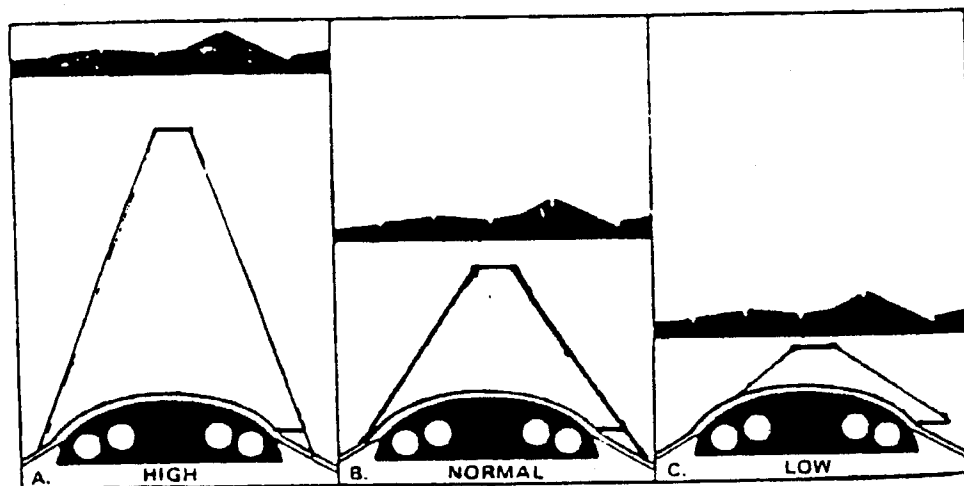

FIGURE 9-3
d. Control the glide path with spoilers. It will take some experience for you to recognize whether you're above, on, or below the optimum glide path. For now, Figure 9-3 shows the differences of a high, normal, or low approach. **If you're high** (aimpoint moving down windshield), **increase spoilers**. **If you're low** (aimpoint moving up windshield), **reduce spoilers**. Ideally, you should be able to fly the pattern so that you roll out on final, open spoilers to half deflection, and fly to the aimpoint with very small corrections. Starting out with half spoilers allows you to correct either way. If you're very high, a slip helps. Recover from the slip no lower than 100' AGL and accept a long landing if you must. **Do not slip below 100' AGL**. If you're very low, leave the spoilers closed and accept a short (but on-speed) approach and landing. **Do not attempt to "stretch out" the glide on a low approach by raising the nose.**